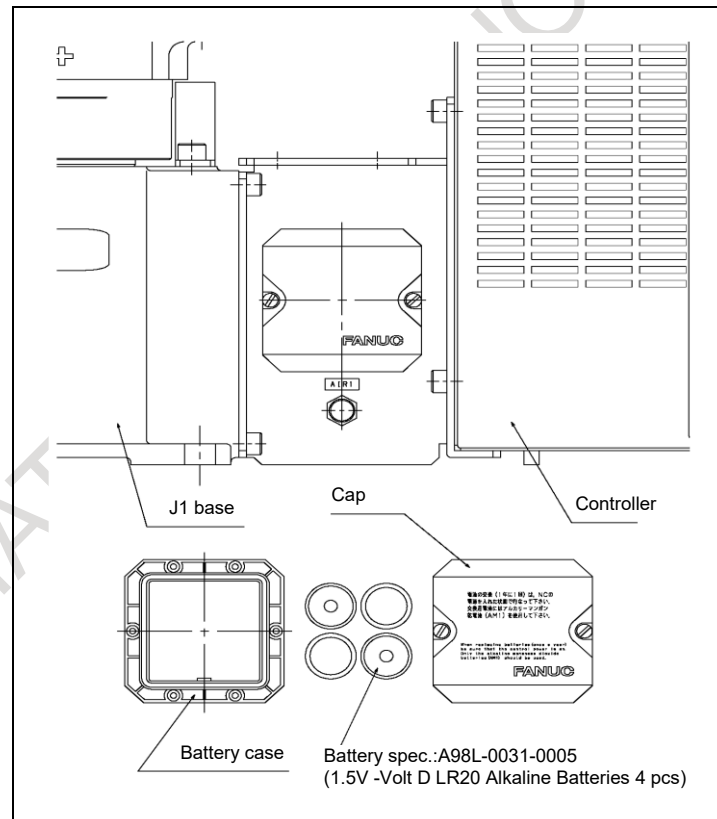

Fig. 3.4 (a) Battery replacement (Standard)
- 2 Remove the battery case cap. (Fig. 3.4 (a))